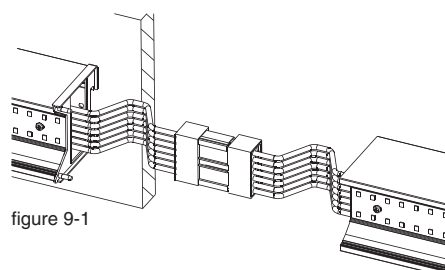

figure 9-1
- k. Connect the female connector of the first fixture to the male connector of the second fixture. **Fig 9-1.**